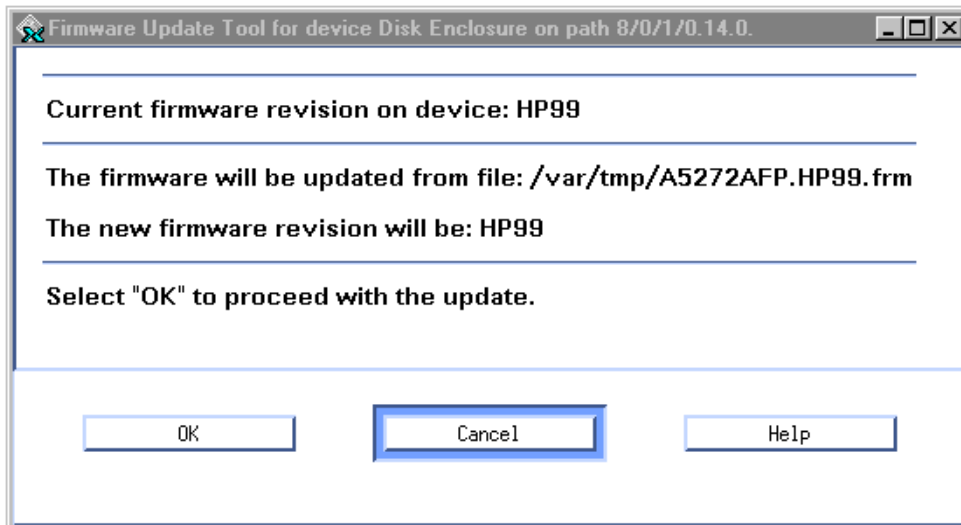

Figure 35 Firmware Download Confirmation Window
8. Select **Start Update...** from the Update menu. STM prompts you to confirm or cancel the firmware update (see Figure 35).